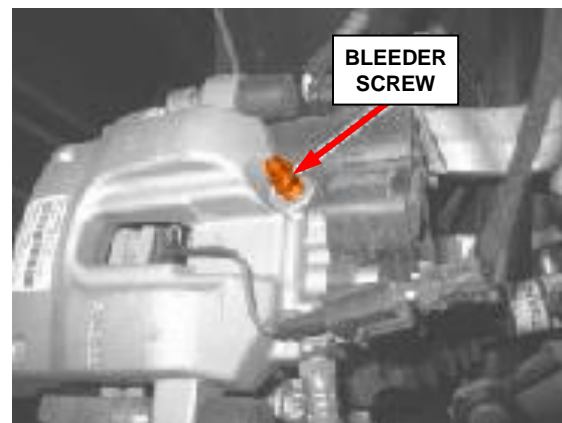

Figure 46 – Rear Brake Caliper
8. Connect the brake fluid recovery hose to the bleeder screw and to the recovery container (Figure 46).
10. Repeat the same procedure for the left rear brake caliper as was performed on the right rear brake caliper **Steps 8-9**. (Figure 46).